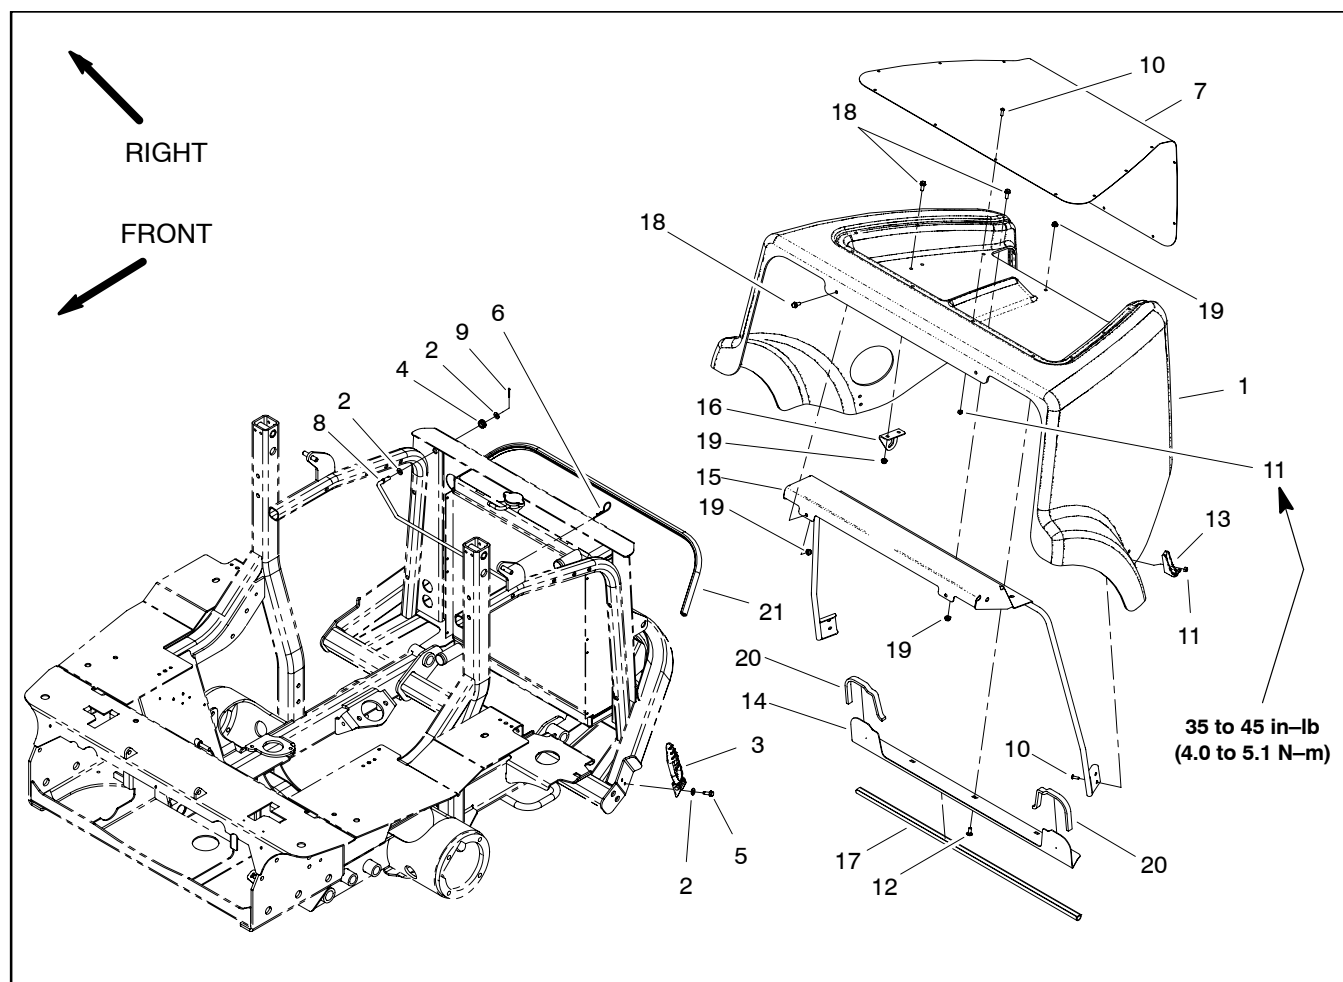

Figure 31
Removal (Fig. 31)
3. Remove hair pin cotter (item 6) from left side frame rod.
6. If necessary, remove hood components using Figure 31 as a guide.
Installation (Fig. 31)
1. Install all removed hood components using Figure 31 as a guide. If intake screen was removed from hood, make sure that hood support, seal angle and prop rod support are attached to hood before installing screen. Secure screen to hood with screws and lock nuts. Torque fasteners that secure screen from **35 to 45 in-lb (4.0 to 5.1 N-m)**.
4. Secure hood to frame rods with hair pin cotter (item 6).